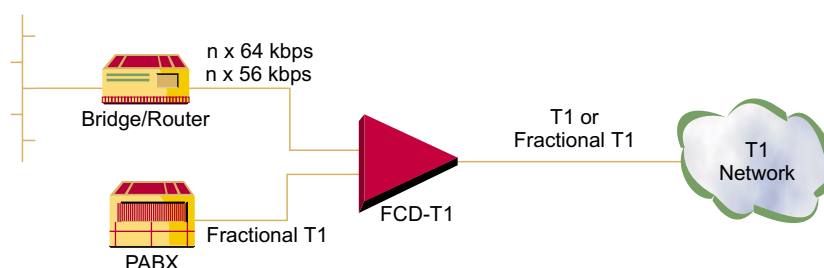

Figure 2. Connection of LAN Traffic together with PABX Traffic to T1 Network
- FCD-T1 is a CSU/DSU for T1 or Fractional T1 services. It can be used as a rate and interface converter, or as an integrating multiplexer for T1 and Fractional T1 services (see Figure 2).